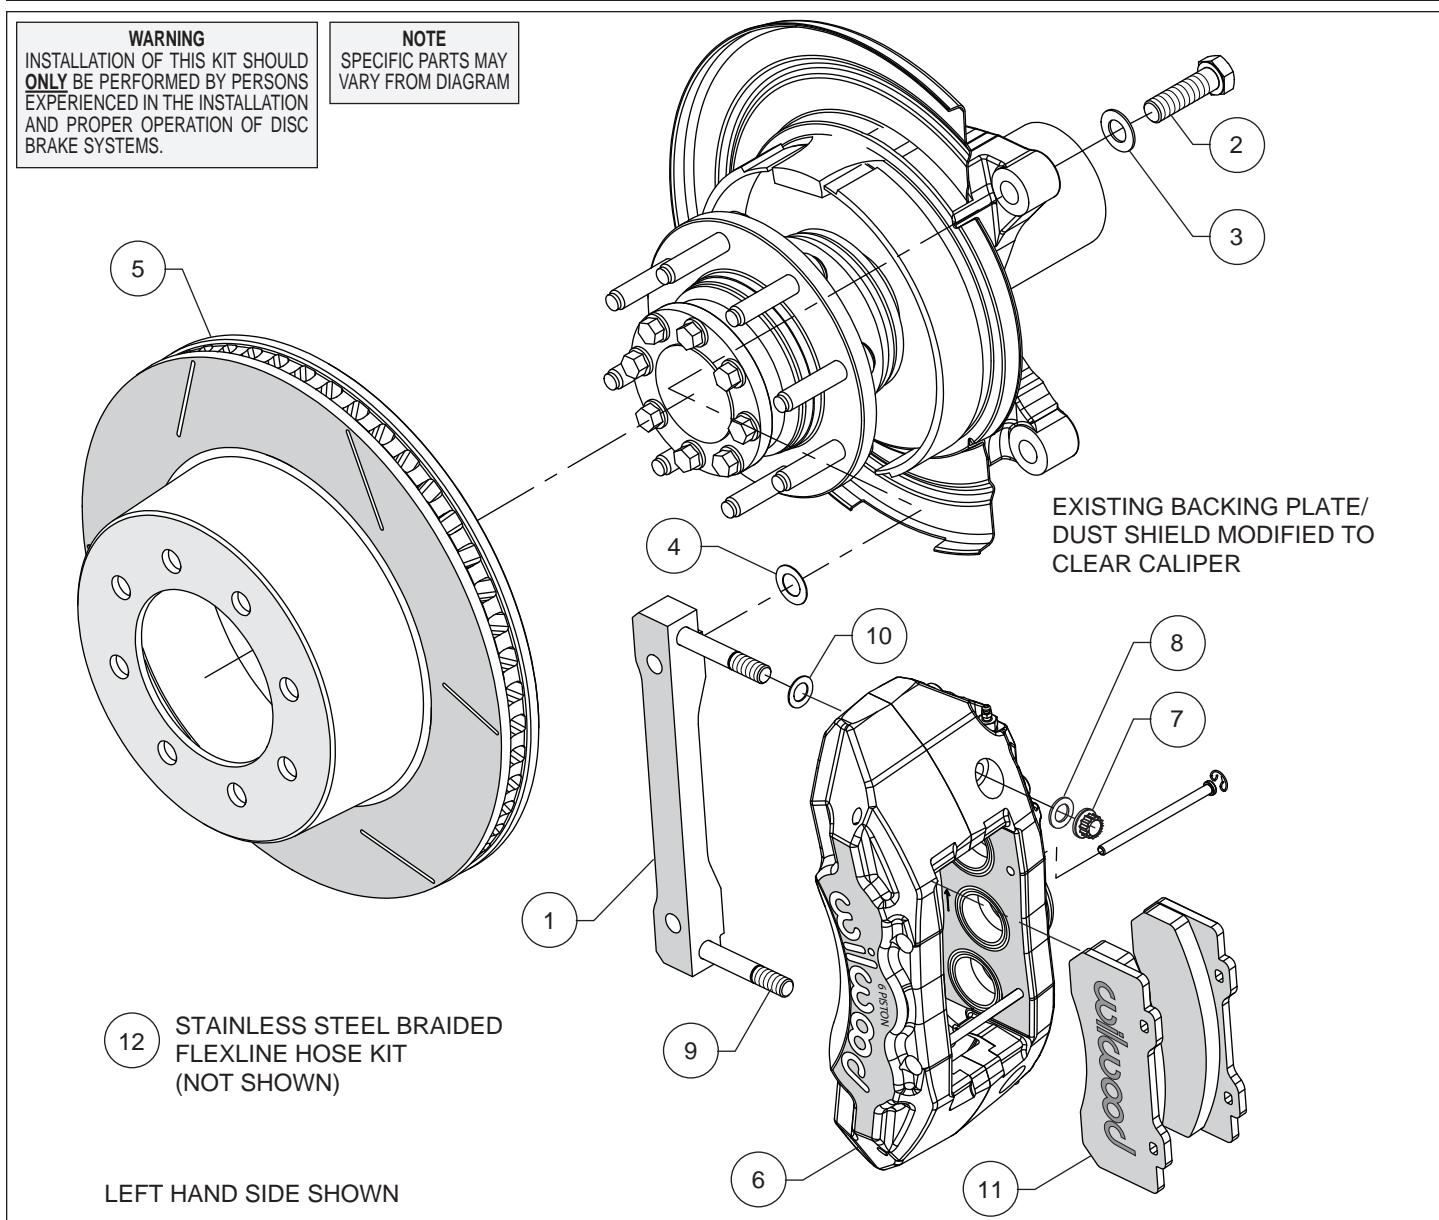
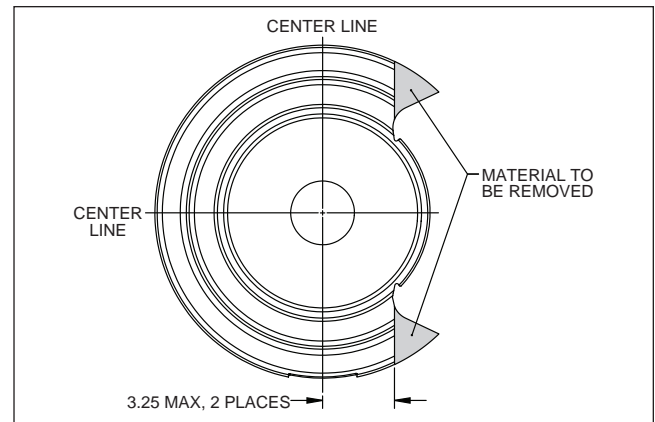

Figure 1. Typical Installation Configuration
Figure 3. Backing Plate / Dust Shield Modifications
- The rear backing plate/dust shield needs to be modified as shown in Figure 3 to clear the new Wilwood caliper mounting bracket (1). **NOTE:** It is recommended that the backing plate be removed before modification, and the modifications be performed by a qualified machine shop. After backing plate removal, cut the dust shield 3.25" maximum from the vertical center line as shown in Figure 3. Temporarily mount the caliper mounting bracket as shown in Figure 1. Examine the fit of the bracket against the OE caliper mounting tabs and verify that the bracket mounts flush.
Assembly Instructions (numbers in parenthesis refer to the parts list and Figure 1 on the preceding pages):
- The caliper mount bracket (1) should initially be installed with clean, dry threads on the mounting bolts. Orient the bracket as shown in Figure 1 and Photo 1, and install using bolts (2) and washers (3). Initially place one .024" thick shim (4) on each bolt between the bracket and upright, Figure 1. Temporarily tighten the mounting bolts. **NOTE:** The bracket must fit squarely against the mount bosses on the upright. Inspect for interference from casting irregularities, machining ridges, burrs, etc. Later, after the caliper alignment has been checked, the mount bolts will be secured using red *Loctite*[®] 271.
- NOTE:** This kit contains distinct right and left hand calipers that must be mounted in a specific direction, as described below. Lubricate the caliper mounting studs (9) with lightweight oil. Initially place one .032" thick shim (10) on each stud as shown in Figure 1 and Photo 2. Mount the caliper (6) onto the bracket (1) using lock nuts (7) and washers (8), Figure 1. Ensure that the caliper is mounted so that the largest pistons are at the rotor exit end of the caliper, in relation to the direction of rotor rotation. Temporarily tighten the lock nuts and view the rotor through the top opening of the caliper. The rotor should be centered in the caliper, Photo 3. If not, adjust by adding or subtracting shims (4) between the bracket and the upright. Always use the same amount of shims on each of the two mounting bolts. Once the caliper alignment is correct, remove the bracket mounting bolts (2) one at a time, apply red *Loctite*[®] 271 to the threads, and torque to 120 ft-lb.